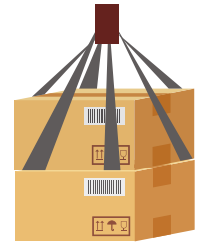

Figure 5
- ✦ To lessen the pressure of the contact position on the box, use wooden sticks, boards, or other fixtures that are the same width as the outer packing cases on the upper section of the box (Figure 5).